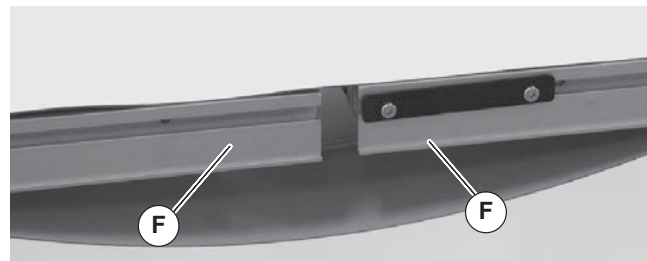

Figure 4
3. Loosen two screws (J) on both sides of conveyor and then push tail assembly (H) inward.
4. Roll out conveyor belt and place conveyor frame sections (Figure 4, item F) into belt loop.